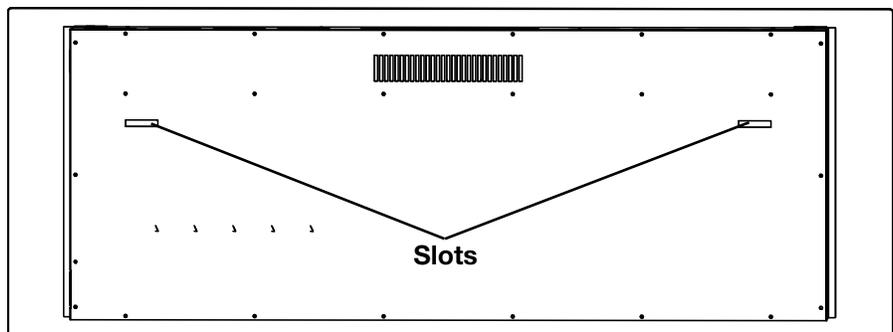

Fig. 3
- E. With the wall mounting bracket installed have two people lift the appliance up and align the hooks on the back of the appliance with the slots on the wall bracket (Fig. 3).